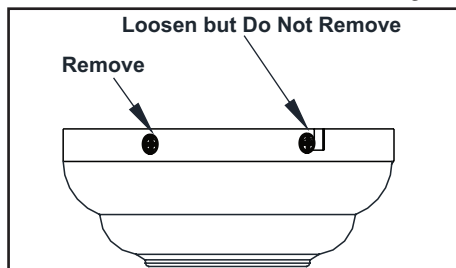

Figure 6
2. Remove the mounting plate from the canopy by loosening the four screws on the top of the canopy. Remove the two non-slotted screws and loosen the slotted screws. This will enable you to remove the mounting plate. (Figure 6)